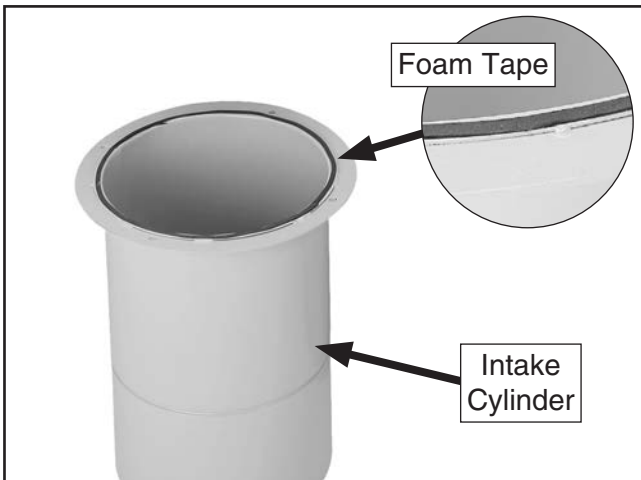

Figure 7. Foam tape stuck on intake cylinder.
2. Attach 3 x 6 x 1800mm foam tape to top of intake cylinder, as shown in **Figure 7**.